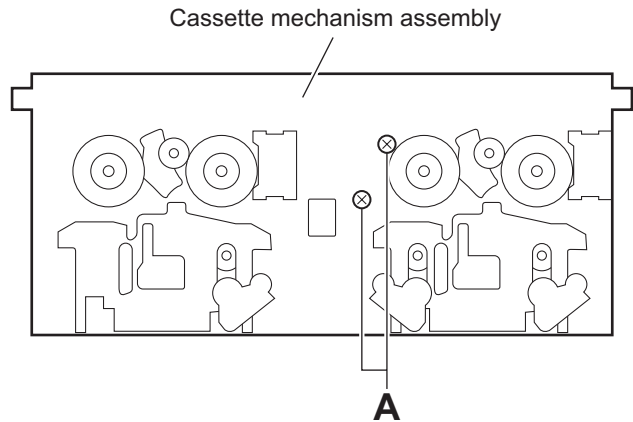

Fig.1
#### 3.3.1 Removing the main motor and replacing the main belts (See Figs.1 and 2)
- (1) From the front side of the cassette mechanism assembly, remove the two screws **A** attaching the main motor. (See Fig.1.)